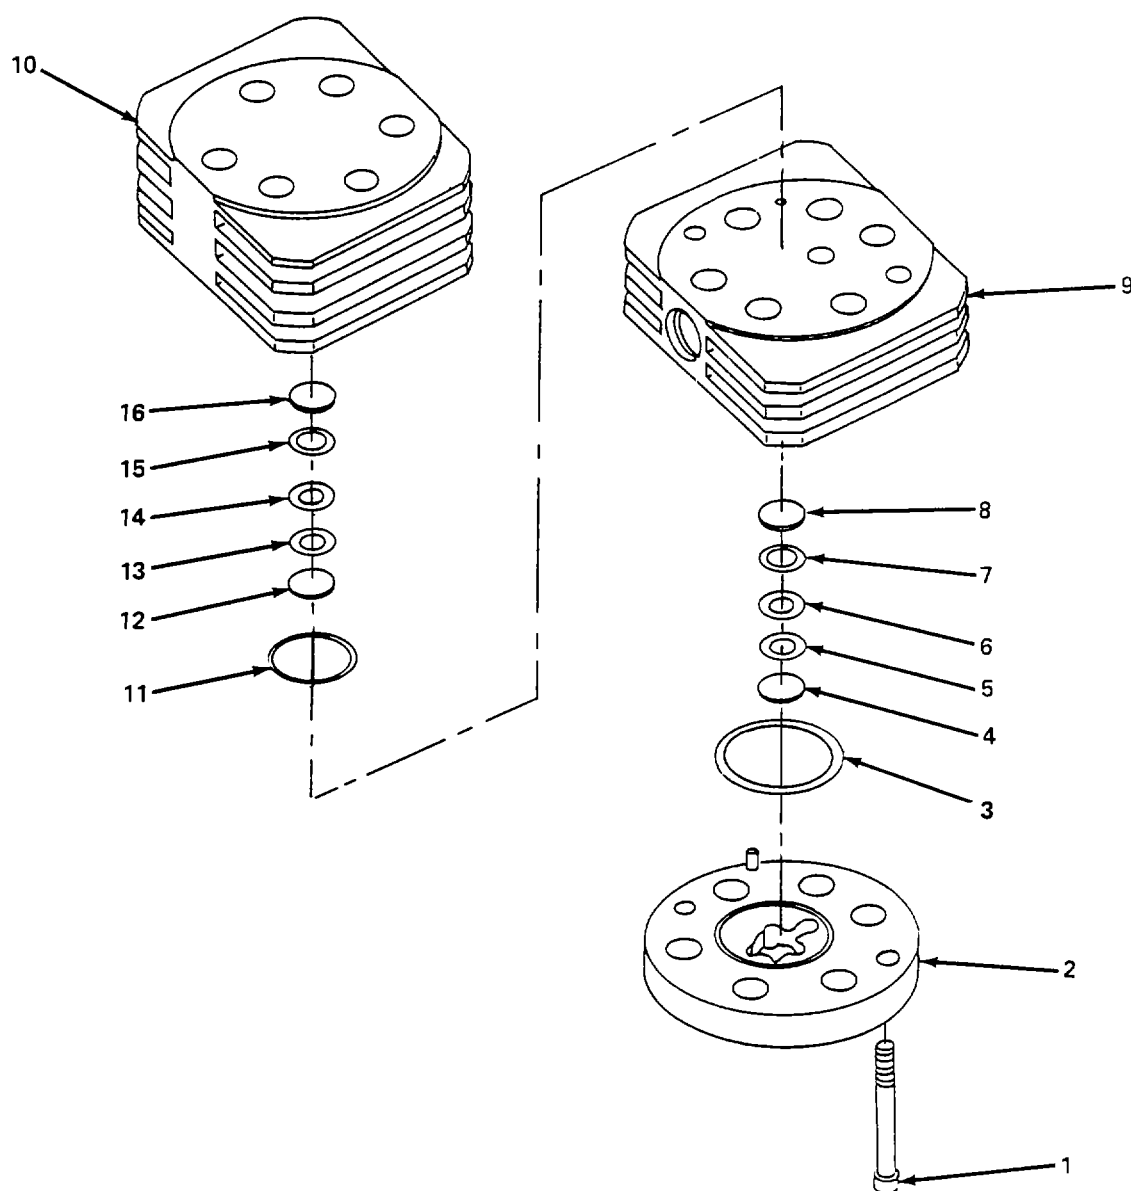

Figure 5-35. Third Stage Valve Head Assembly, Repair.
- (5) Apply teflon tape to pipe threads on fittings (9) and (10) and install fittings (9) and (10).
- (6) Ensure all sealing surfaces are clean.
- (7) Install cooling ring (7) and new preformed packing (8).
- (8) Install valve assembly (6) and secure with six nuts (4) and washers (5).
- (9) Tighten connector nut (3).
- (10) Tighten connector nuts (1).
b. Repair. (figure 5-35)**WARNING**